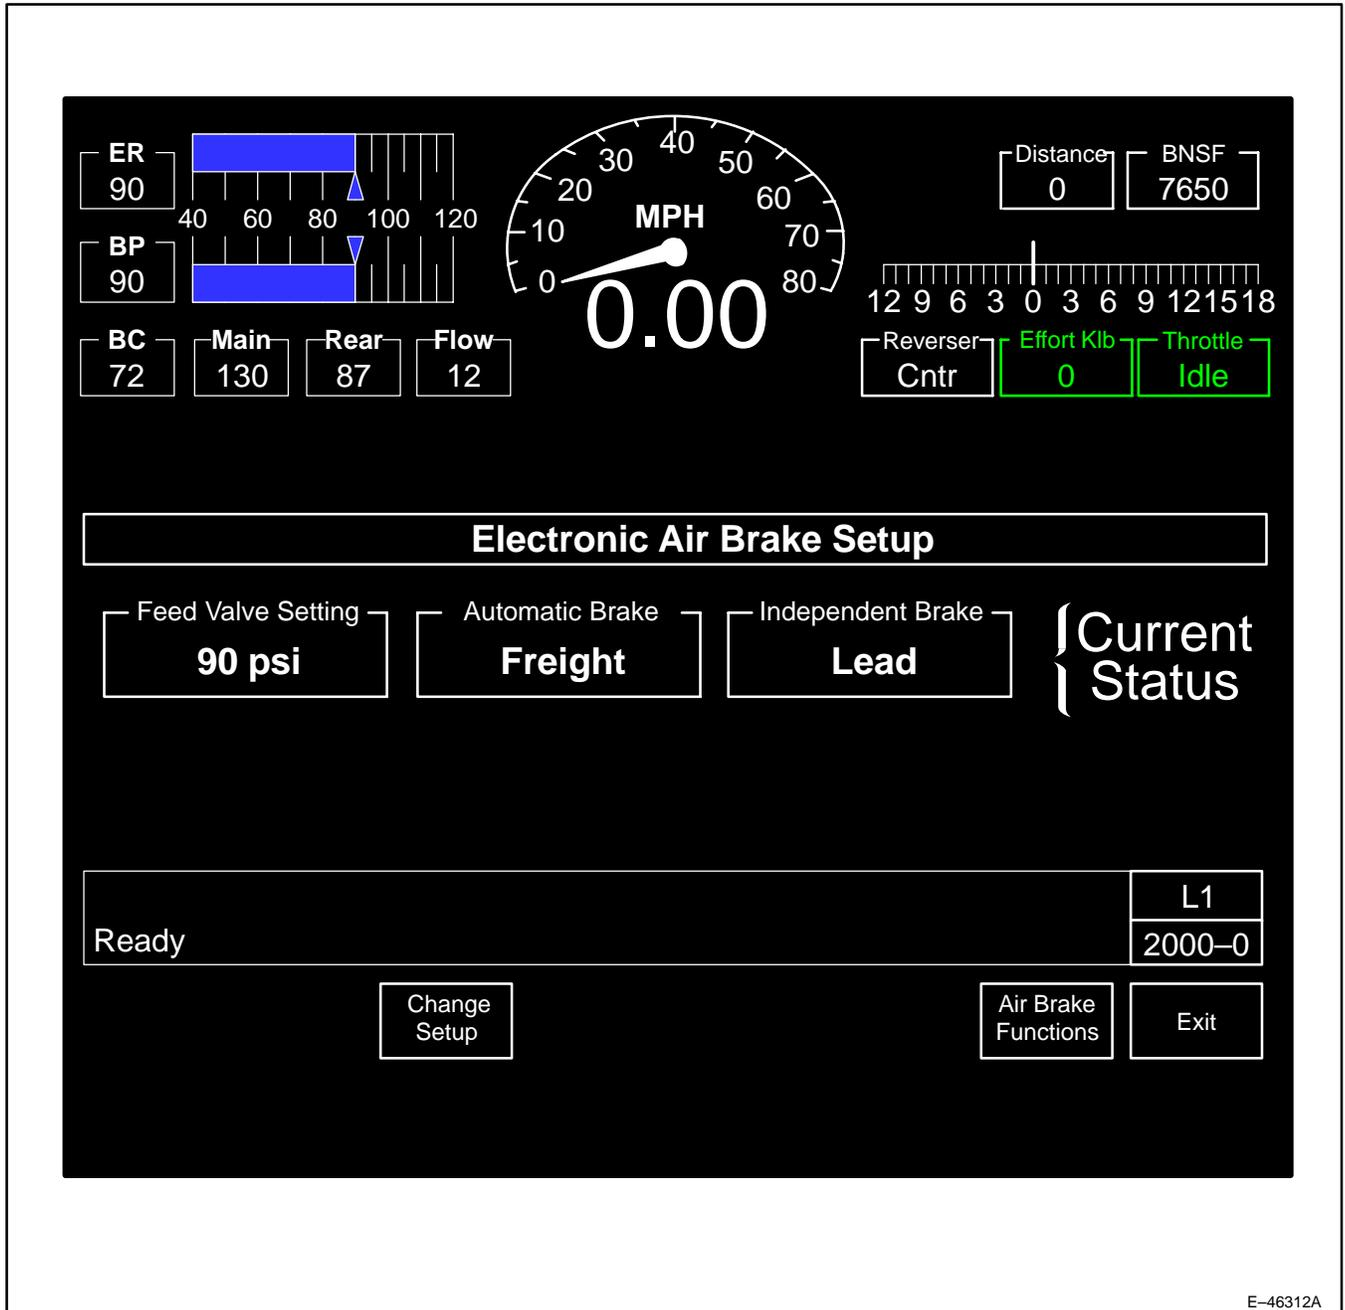
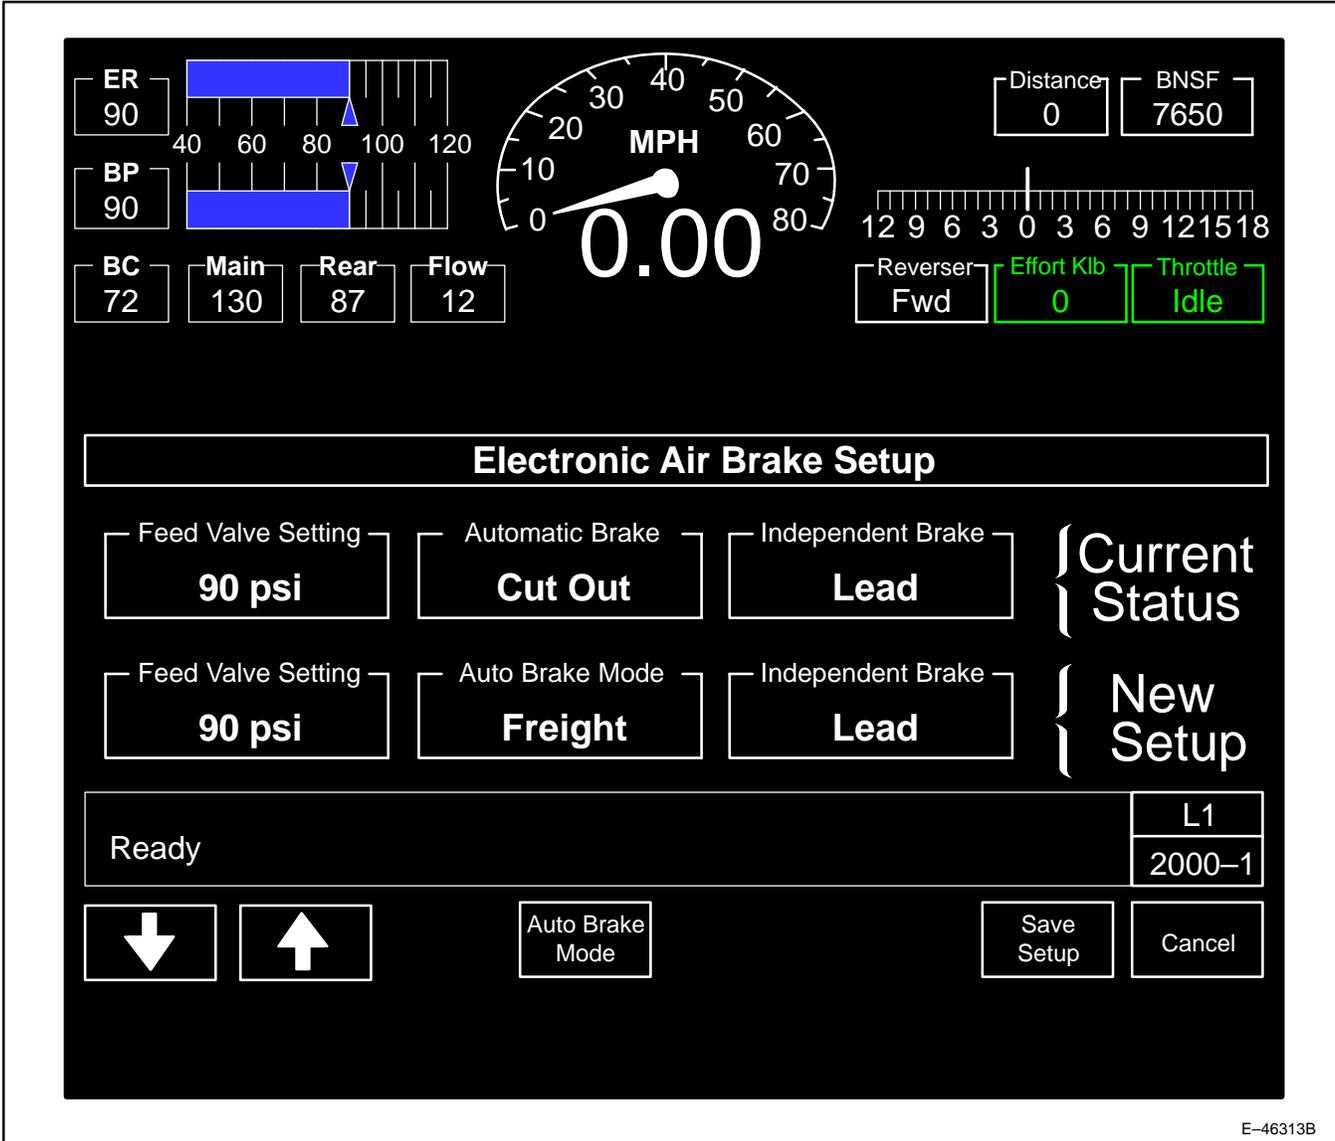

Figure 43. Electronic Air Brake Setup Screen (2000-0).
Figure 44. Electronic Air Brake Change Setup Screen (2000-1).
The Air Brake Setup (Figure 43) function receives data from the IPM. Operators use this screen to verify or adjust Air Brake settings of the controlling unit. Screen parameters may **NOT** be changed if the unit is moving (faster than 0.1 mph). If the current setup is not correct for the current consist and/or trip, proceed to the Operation Section that follows.
Pressing soft key position F1 (**Air Brake**) on the Main Operation Screen (screen 0000-0, Figures 33 or 35) will display screen 2000-0 (Figure 43). Trail units will have a similar screen as shown in Figure 44. Follow *Railroad Operating Procedures* for this operation. The active keys and a brief description of operation are as follows:
1. Pressing key position F3 (**Change Setup**) will display screen 2000-1 (Figure 44). Six keys are available on this screen as follows:
3. Press soft key position F3 (**Change Setup**) to display screen 2000-1 (Figure 44).
6. Press soft key position F3 (**Change Setup**) to display screen 2000-1 (Figure 44). Use the soft keys F1 and F2 to adjust the Feed Valve Setting for the Equalizing Reservoir (ER) as required.
4. Press soft key position F3 (**Change Setup**) to display screen 2000-1 (Figure 44).
9. Place the Automatic Brake handle in CONTINUOUS SERVICE (CS).